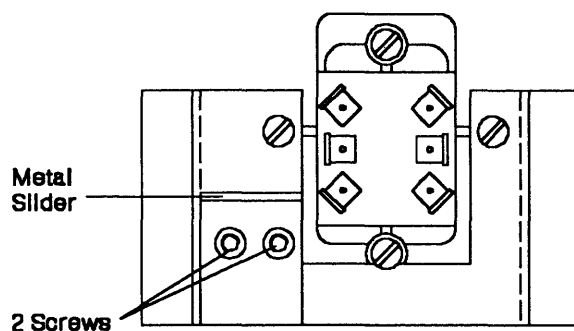

Figure 1-6. UEPO Switch (Rear View)
- Loosen the two screws shown on Figure 1-6 below.